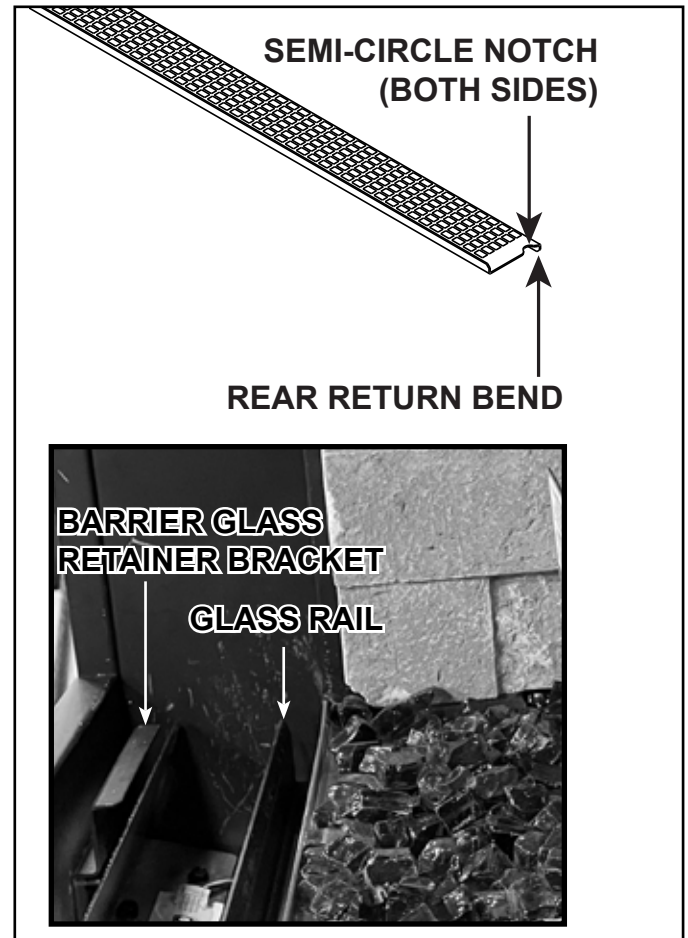

Figure 11.19 Install Transition Media Tray
- Set and press the transition media tray into position as shown in Figure 11.19. The rear return bend should be positioned in between the glass frame and the glass rail so the semi-circle notches will face the glass. The front of the media tray is seated on the SafeSurface barrier glass retainer bracket.
3. Ensure no glass media is in the SafeSurface barrier glass retainer bracket. Set the glass into the barrier glass retainer bracket, located behind the sheet rock ledge and the front side of the transition media tray. Center the glass left to right. See Figure 11.19.